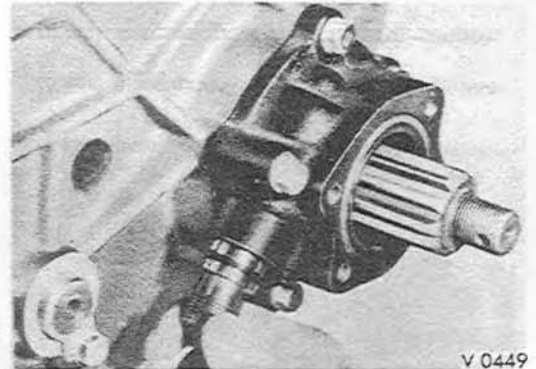

Fig. 3-25. Removing the speedometer driven gear from the speedometer housing.
- Remove the speedometer shaft sleeve stopper. Then, remove the speedometer shaft sleeve set together with the speedometer driven gear complete from the housing. (Fig. 3-25)